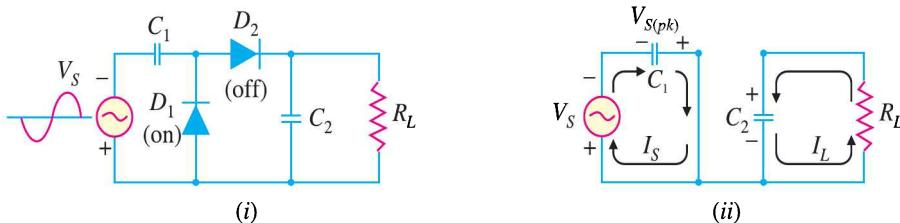

Fig. 6.49
- (i) During the negative half-cycle of a.c. input voltage [See Fig. 6.49 (i)], diode D_1 is forward biased and diode D_2 is reverse biased [See Fig. 6.49 (i)]. Therefore, diode D_1 can be represented by a *short* and diode D_2 as an *open*. The equivalent circuit then becomes as shown in Fig. 6.49 (ii).
As you can see [See Fig.6.49 (ii)], C_1 will charge until voltage across it becomes equal to peak value of source voltage [$V_{S(pk)}$]. At the same time, C_2 will be in the process of discharging through the load R_L (The source of this charge on C_2 will be explained in a moment). Note that in all figures electron flow is shown.